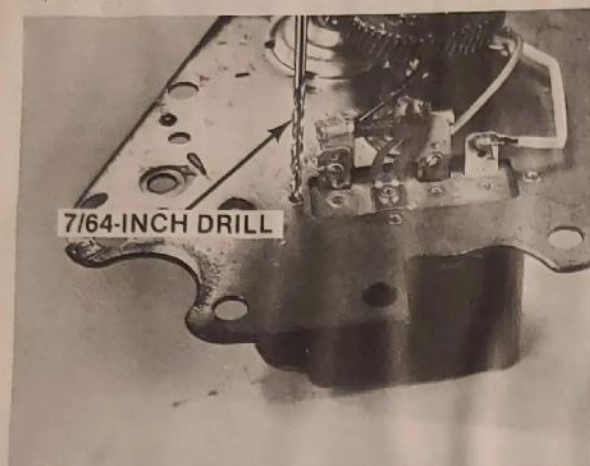

Fig. 10. Removing Terminal Board
4. If park switch, terminal board or 20-ohm resistor is damaged, use 7/64-inch drill to free terminal board assembly (fig. 10). Attaching parts are included in repair kit.